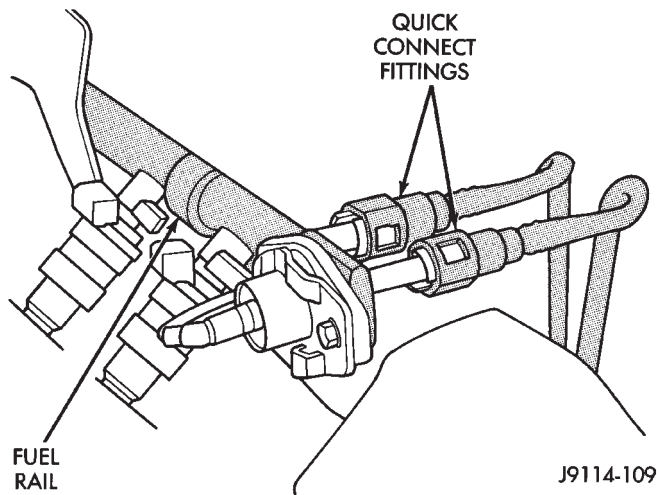

Fig. 7 Fuel Supply Tube—Typical
(10) Inspect fuel tube quick-connect fitting-to-fuel rail connections (Fig. 7).